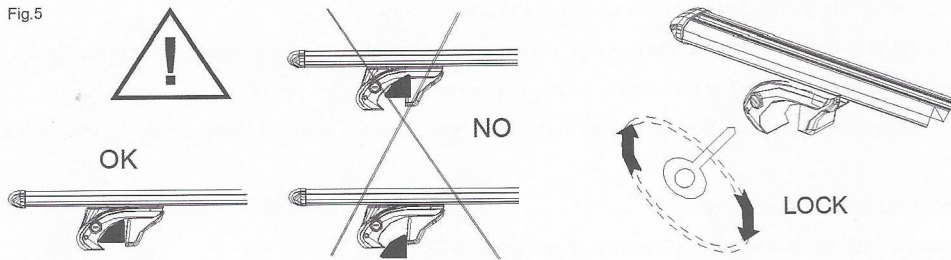

Fig.6
- . The load must not project from the sides of the vehicle (see fig.6)
- . Warning: the load must be distributed evenly, with the lowest possible centre of gravity (see fig.6)
- . If long objects are transported, the ends should also be fixed to the vehicle's tow hook (see fig.6) and you should drive even more slowly.